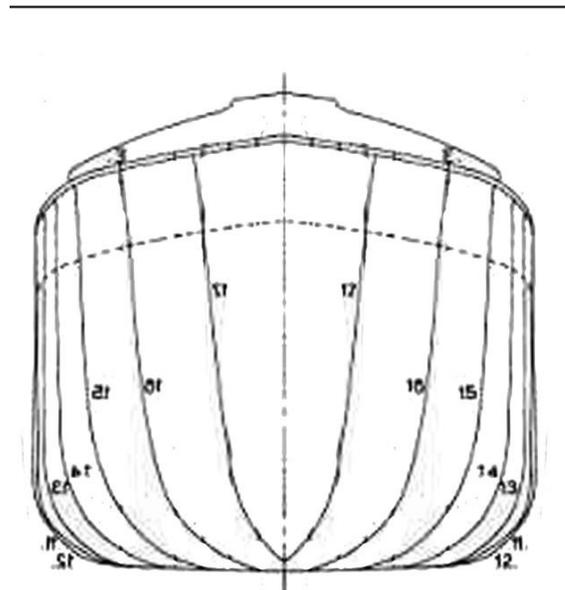

Figure 6. Bow templates with baseline.
3. All of the ribs will need to be positioned on the building board so that their hull shapes are at the correct height relative to one another. We make sure that this happens by drawing a horizontal baseline at a fixed distance from the hull bottom. See figure 6. This is where we will cut the edge of the template, where the rib will rest on the